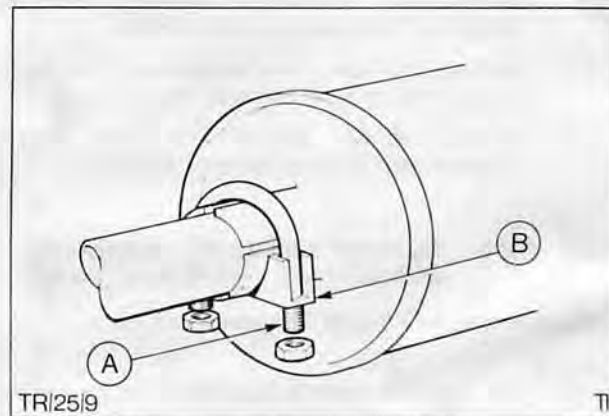

Fig. 26. Typical 'U' bolt clamp joint
10. Fit, but do not fully tighten, 'U' bolt clamps to new joints, Fig. 26.